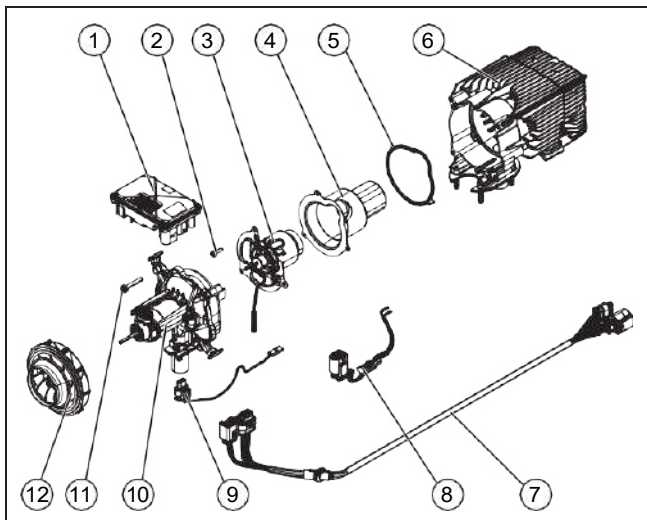

Fig. 18 Replacing the control unit, combustion air fan and overheating temperature sensor
1. Insert the new seal Fig. 18 into the heat exchanger and move combustion chamber into the assembly position.